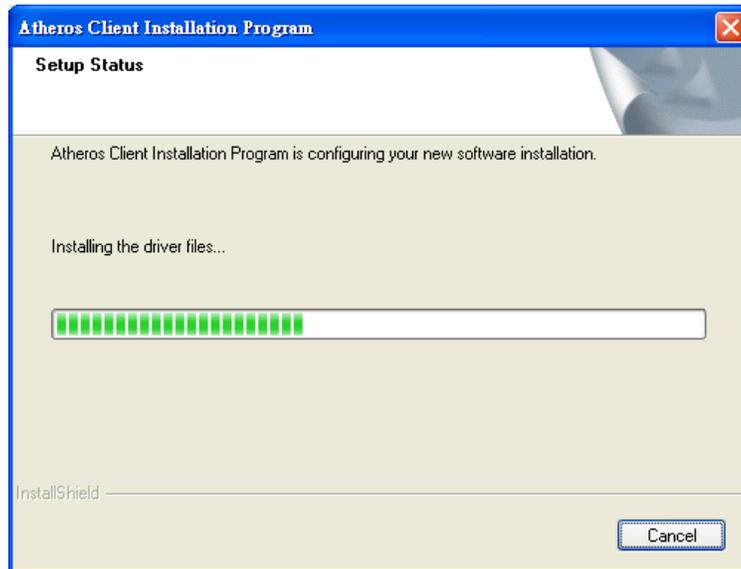

Figure 6-33: Wireless LAN Driver Installation
Step 12: Click **NEXT** to start the driver installation (Figure 6-33).